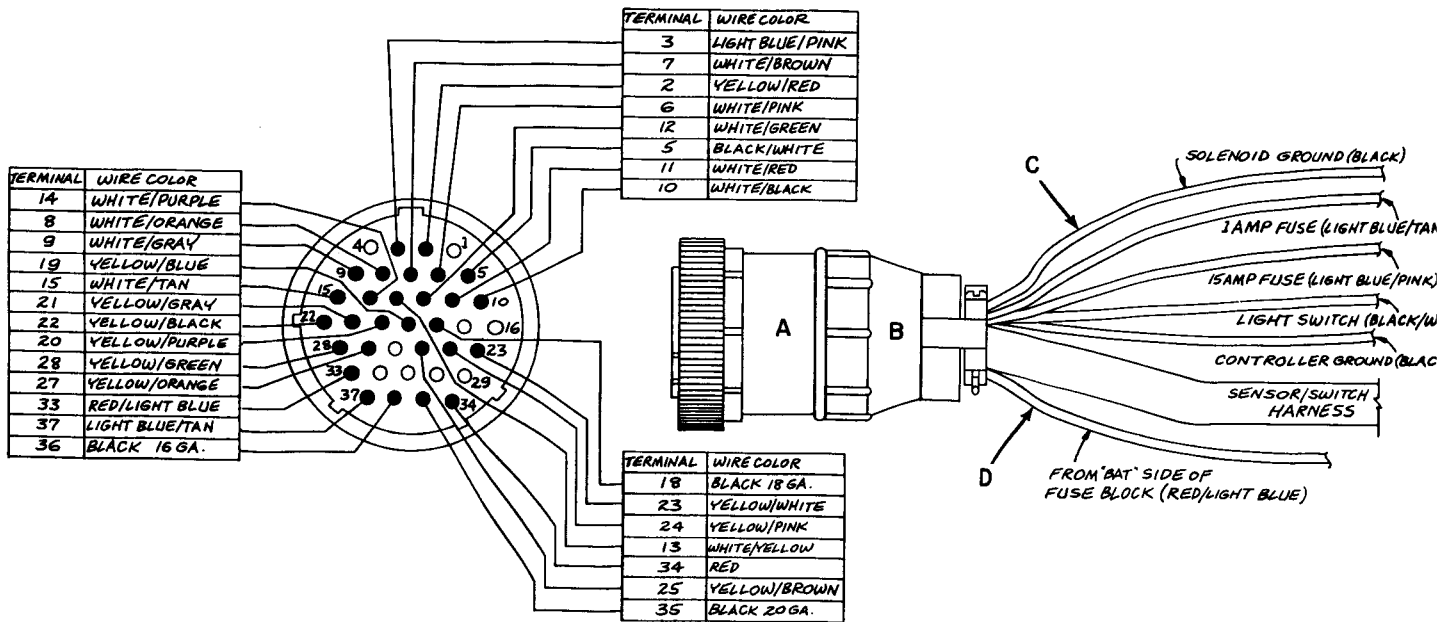

FIGURE 2-7
13. Install the wires in the connector as shown in Figure 2-7.